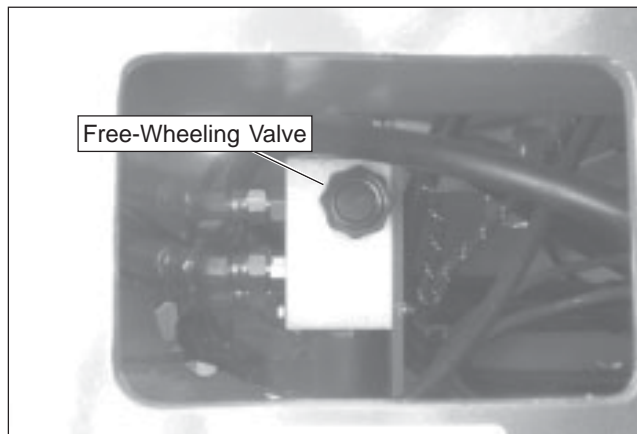

Figure 10.4 – Rear of Chassis
7. Turn the free-wheeling valve counterclockwise to the fully open position. The free-wheeling valve is located on the drive valve at the rear of the chassis (refer to Figure 10.4).